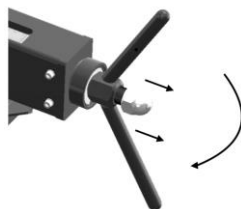

Fig. 7
1. Turn the handle clockwise and fully extend the lead screw (Fig. 7).